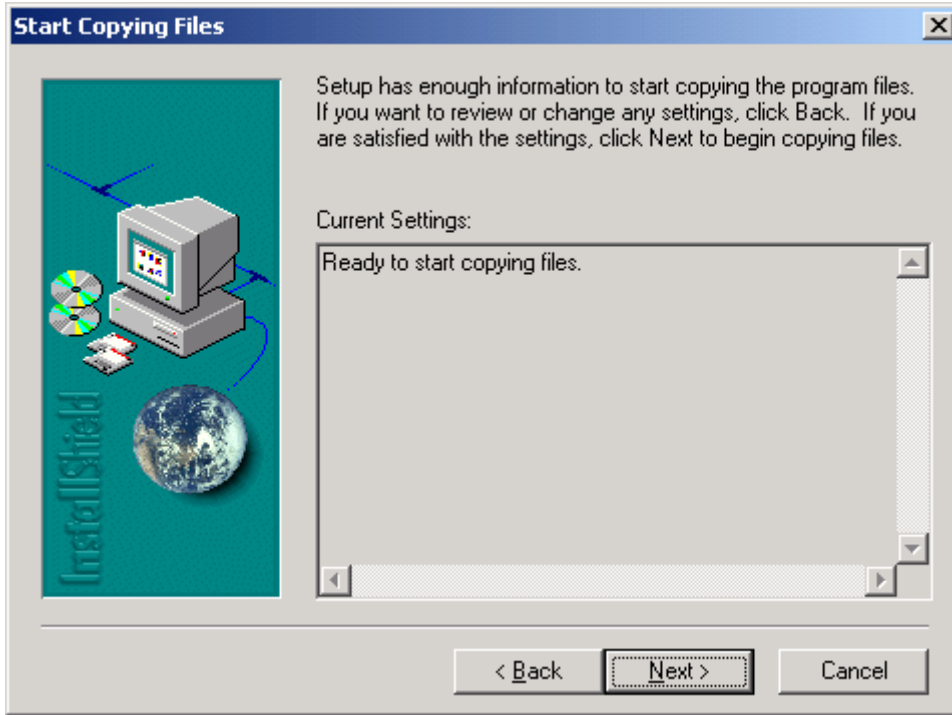

Figure 10 – MP32 Installation - Start Copying Files
6. Figure 10. Start Copying Files – The setup program is now ready to copy files to your computer. Click the <Next> button to begin copying files. The program will install using the answers provided.